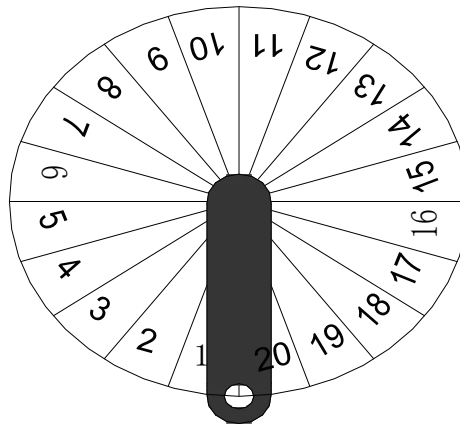

Fig. 5.6.6 Motor running segment
1. Section numbers: the stepper motor rotation cycle is divided into 20 sections, as shown in Fig. 5.6.6, the previous three diagrams show